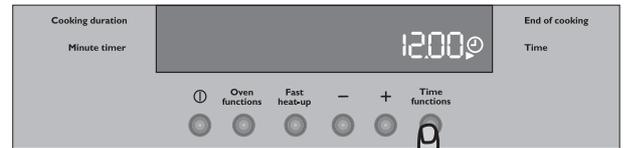

Fig. 1
a) press Time function button and, while the symbol is flashing (Fig. 1), set the correct time of day by pressing buttons “-” or “+” (Fig. 2).